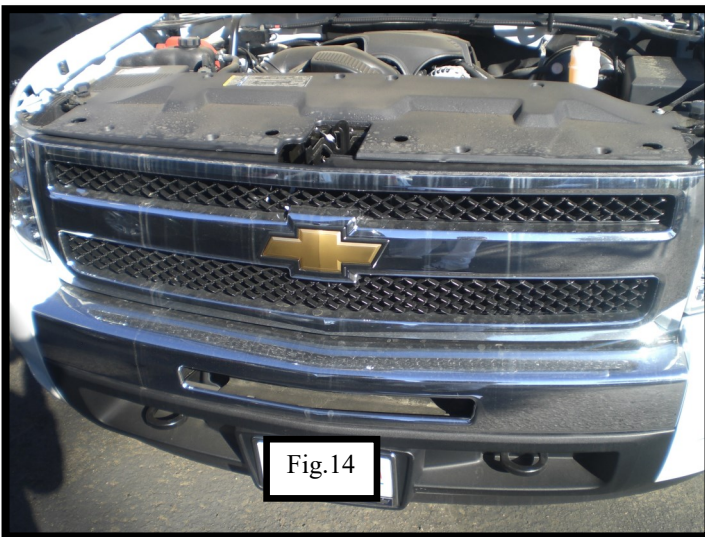

Fig.11
4. Once the mounting brackets have been installed (do not fully tighten), trim bumper (Fig. 11), then re-install bumper & valance assembly.